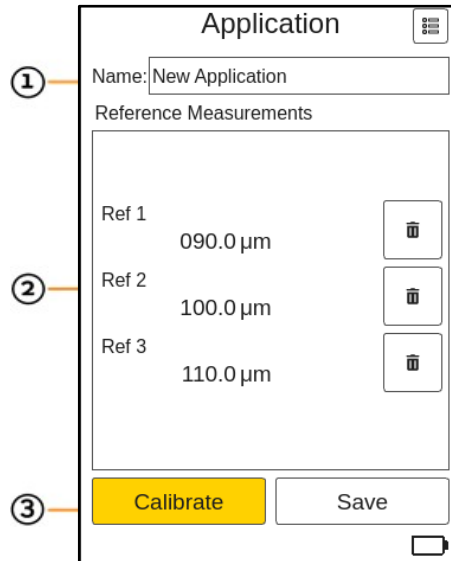

Figure 43: *References*
A calibration report as shown in Figure 43: *Basic Calibration Report* will be generated by the coatmaster® Flex software.
- **Signal Fit** (SF):
- When changing in the Materials Properties (see Figure 43: *Material Properties*) the Thickness Range regarding the expected dry film coating thickness the duration of the measuring time will be calculated.
- When changing in the Materials Properties (see Figure 43: *Material Properties*) the Colour regarding the applied color of the coating material the Flash energy will be adjusted.